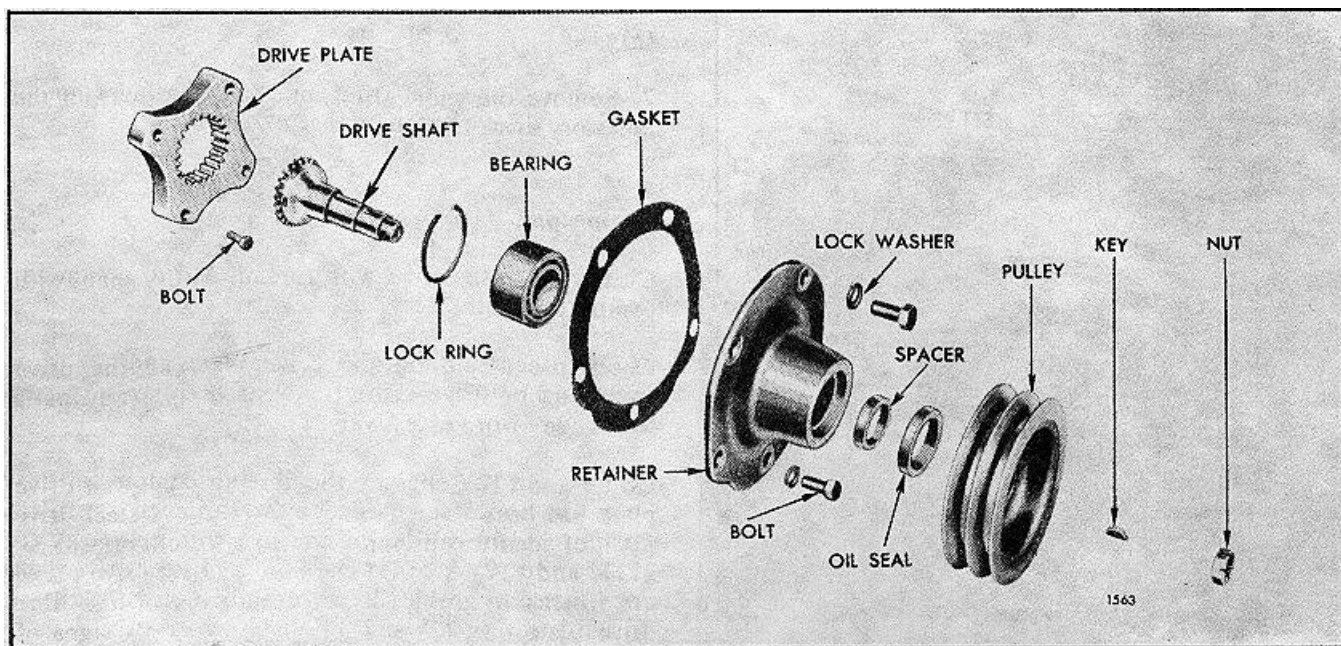

FIG. 4 - Components of Accessory Drive for Belt-Driven Accessory (Drive Plate Type)
For a belt-driven accessory, a drive shaft is used in place of the drive coupling. One end of the drive shaft is splined to the drive plate and the other end is supported by a bearing in the accessory drive retainer which is attached to the flywheel housing (Fig. 4). A drive pulley, attached to the outer end of the drive shaft, is connected by belts to the pulley on the accessory which is mounted above the flywheel housing.
Refer to Figs. 4 and 5 and remove the accessory drive used with a belt-driven accessory as follows:
6. Remove the accessory drive shaft from the retainer (Fig. 4).
7. Remove the snap ring and ball bearing from the accessory drive retainer (Fig. 4).
Inspect the ball bearing used to support the accessory drive shaft (Fig. 4). *Shielded bearings must not be washed;* dirt may be washed in and the cleaning fluid could not be entirely removed from the bearing. Wipe the outside of the bearing clean. Then hold the inner race and revolve the outer race slowly by hand. If the bearing is worn or does not roll freely, replace it.
Examine the oil seal for wear or damage. Discard the oil seal if it is worn. Also inspect the oil seal contact surface of the drive shaft (Fig. 4) for grooving. If the shaft is grooved and cannot be "cleaned-up", replace it.
3. If a belt-driven accessory is used, refer to Fig. 4 and proceed as follows: